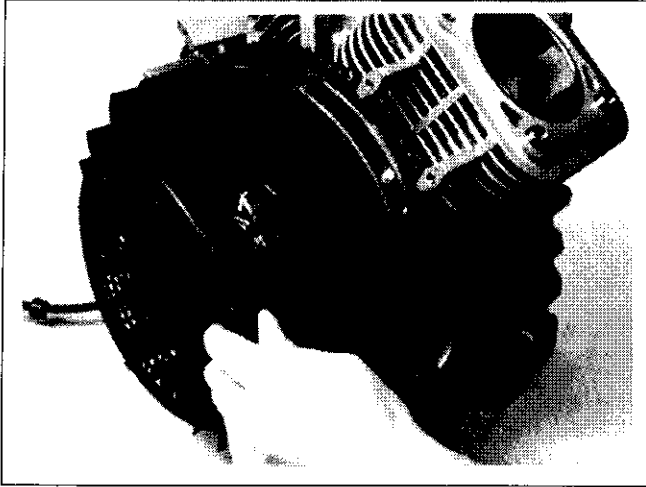

Figure 11-28. Installing Plastic Type Grass Screen.
1. If the engine uses the plastic type grass screen, install retainers then snap screen onto the fan. See Figure 11-28. If equipped with the metal type, the screen is installed later.